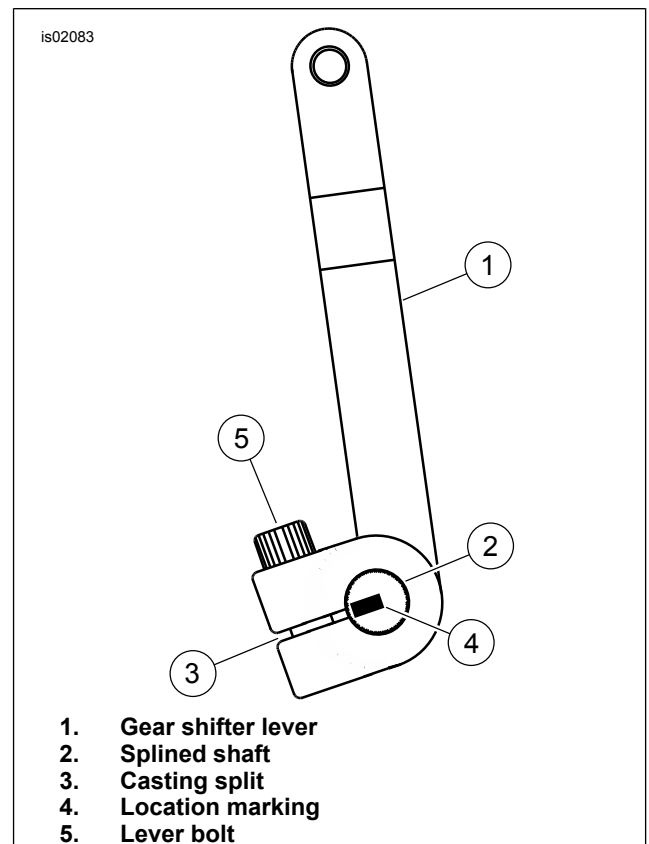
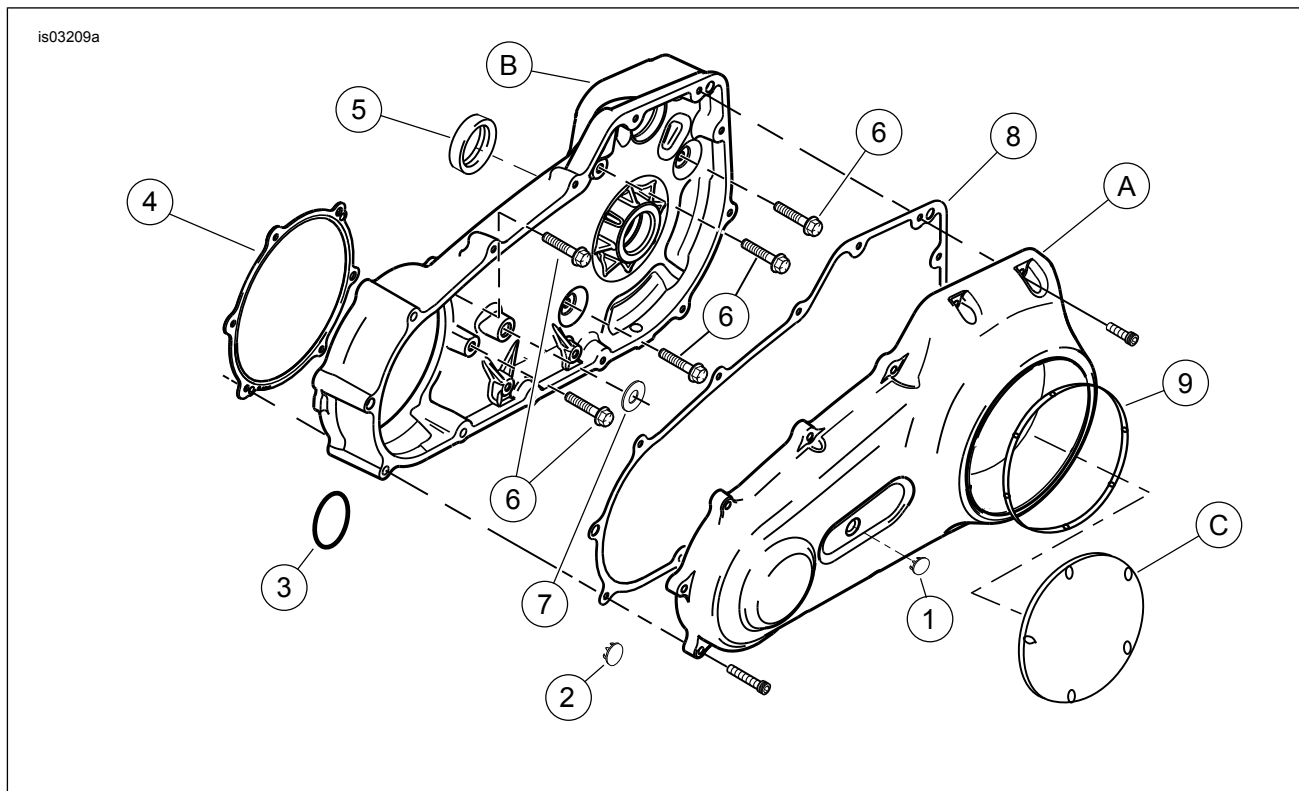
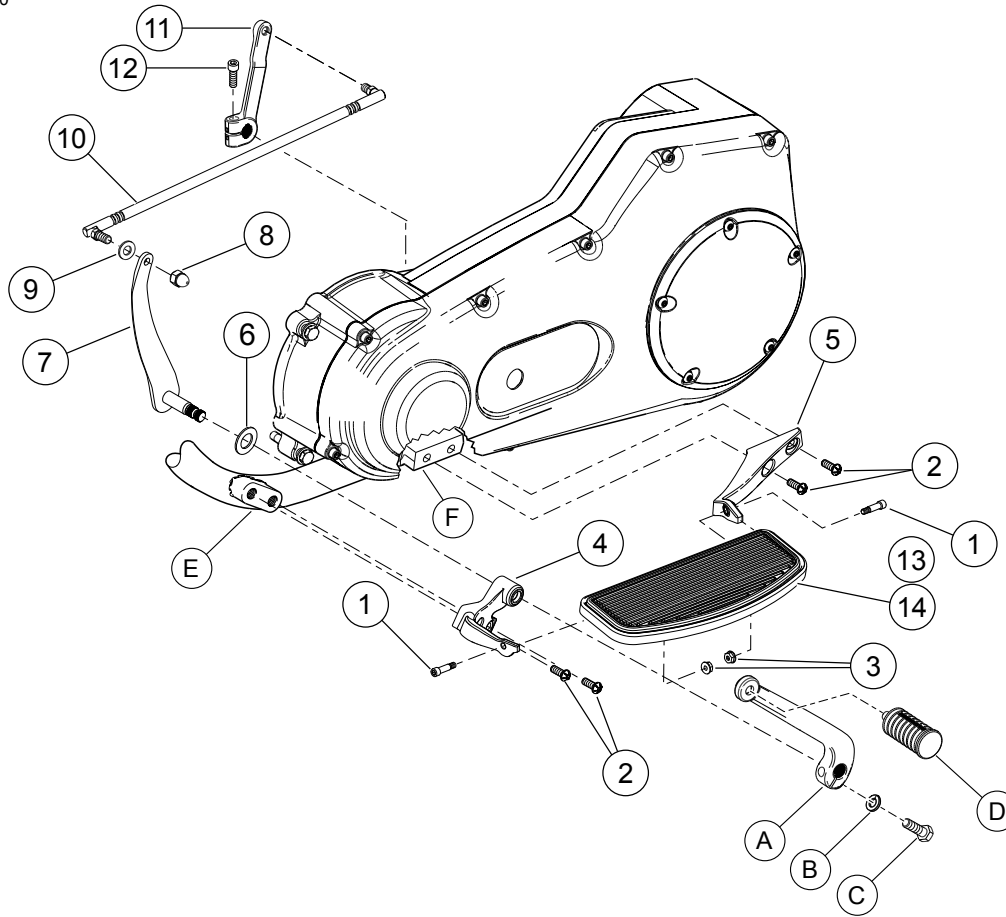
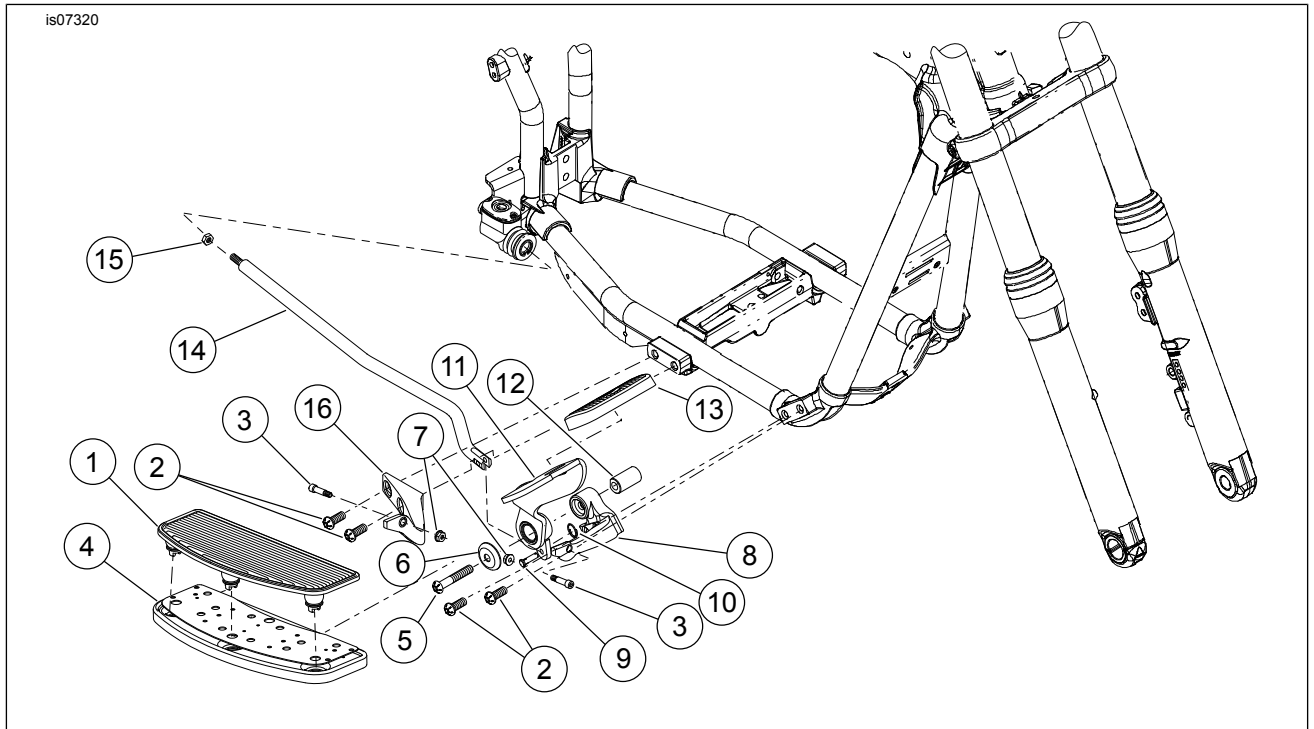

Figure 1. Gear Shifter Lever Orientation
Figure 3. Primary Chaincase Cover and Housing Components
Figure 4. Dyna Rider Footboard Kit
Figure 5. Dyna Rider Footboard Kit
See Figure 3, Figure 4, Figure 5 and Table Reference.
3. See Figure 4. Remove plugs from forward frame footboard mount (E) and discard plugs.
4. See Figure 4. Remove the foot shifter lever (A) and shifter peg (D). Save the foot shifter lever and shifter peg and hardware for future installation.
5. See Figure 3. See service manual and remove the outer cover assembly (A) and inner cover assembly (B).
6. See Figure 1. Before removing the gear shifter lever (1):
- a. Using a marking tool, draw a location marking (4) on the end of the splined shaft (2) across from the casting split (3). This will allow the new gear shifter lever to be installed in the same orientation as the old lever.
- b. After marking the gear shifter lever orientation, loosen the lever bolt (5) and remove the gear shifter lever (1).
- d. See Figure 4. From the kit, install the new gear shifter lever (11) and bolt (12) onto the splined shaft in the same orientation as the old shifter lever.
- e. See Figure 1. Tighten the lever bolt (5) to 24.4–29.8 N·m (18–22 ft-lbs).
7. See Figure 4. Install the front and rear footrest brackets (4 and 5) to the frame using the buttonhead TORX[®] screws (2). Tighten screws to 33.9–47.5 N·m (25–35 ft-lbs).
8. See Figure 4. Install the front inner gear shifter (7) and washer (6) to inside of the front footboard bracket.
9. Install the previously saved gear shifter (A) with a coat of light lubricant. Install washer (B), screw (C), and shifter peg (D) to the gear shifter. Tighten screw (C) to 9.5–12.2 N·m (7–9 ft-lbs).
10. Using a small amount of Loctite 243, install the new shifter rod assembly (10) onto the gear shifter lever (11). Also install washer (9) and acorn nut (8) to inner gear shift assembly (7). Tighten acorn nut (8) and rear of shift linkage (10) to 10.8–16.3 N·m (8–12 ft-lbs).
12. See Figure 3. Put inner primary cover (B) and primary cover (A) in position and check for proper clearance with shifter linkage components.
15. See Figure 5. Place pad (1) into position on footboards (4). From bottom of footboards, use pliers to pull rubber anchors through holes in footboards.
16. See Figure 3. See service manual. Install primary cover using new gaskets from the kit.
17. See Figure 4. Install footboards (14) to brackets (4 and 5) using shoulder bolts (1) and flange nuts (3). Tighten screws to 20–27 N·m (15–20 ft-lbs).
1. See Figure 5 and service manual. Remove the right side rider footrest fasteners. Discard the fasteners.